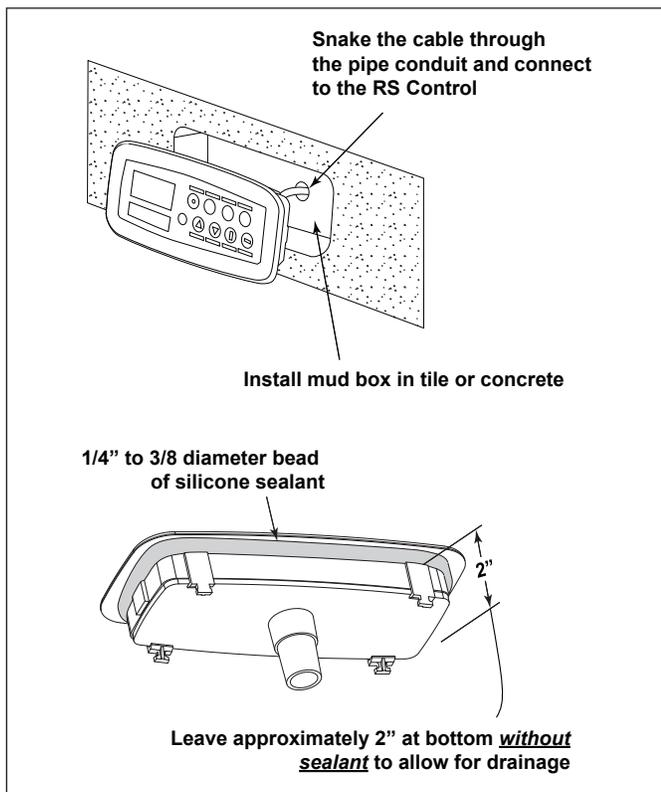

Figure 4. Vertical Installation with Optional Mud Box
1. Refer to Figure 4 to install the optional mud box for use with concrete or tile.
5. Apply a $\frac{1}{4}$ " to $\frac{3}{8}$ " diameter bead of silicone sealant all around the part at the corner shown below in Figure 4. Position the SpaLink RS, secured in the snap-on frame, within the mud box and temporarily tape the SpaLink RS control into the correct position. Allow 24 hrs for the sealant to cure, then remove the tape.